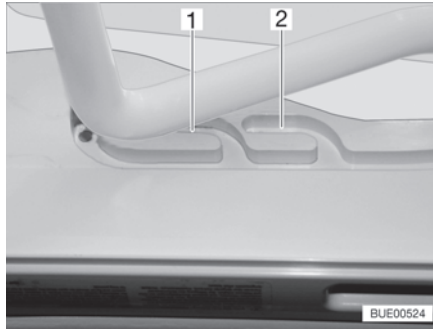
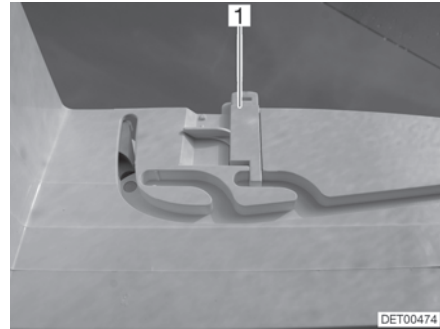

Fig. 81 Heki skylight in ventilation position
Fig. 82 Ventilation position locking mechanism
The Heki skylight can be put in two ventilation positions: Bad weather position (Fig. 81,1) and central position (Fig. 81,2). Depending on the model, the skylight can be locked in the central position with both left and right latches (Fig. 82,1) on the skylight frame.
- Push the bar slightly upwards and into the selected guide (Fig. 81,1 or 2) and lock if necessary.